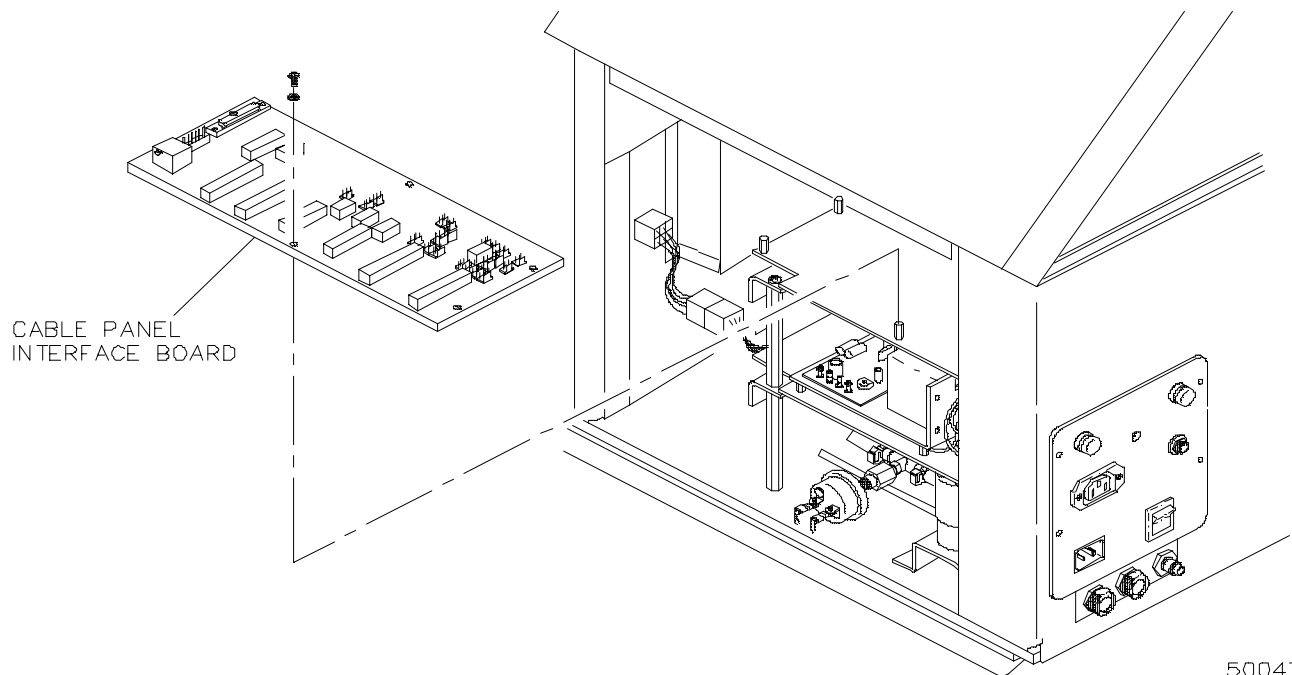

Figure 4-48. Cable Panel Interface Bd
4. Disconnect cables from Cable Panel Interface Bd (**Figure 4-48**).
- a. □ Remove Bar Code Reader Cable from Cable Panel Interface Bd (Figure 4-48).
- (1) □ J3 cable to white connector under dispense boom motor.
- (2) □ Fan connectors.
- (3) □ J9 (Spare)
- (4) □ J8 (Printer).
- (5) □ J12 (Stepper Drive).
- (6) □ J11 (CPU)
- (7) □ J10 (Bit Bus power).
- (8) □ J7 (LED)